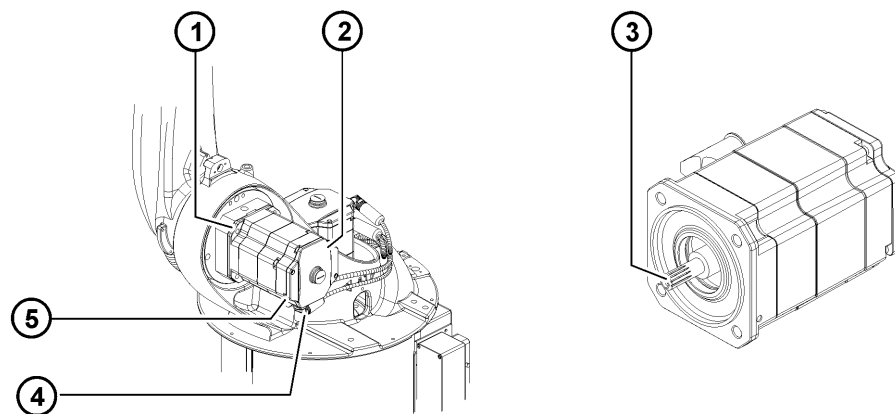

Fig. 11-3: Removal, installation of motor A2
1. Release and unplug connectors XM2 (>>> Fig. 11-3) and XP2 from motor A2.
2. Clean tothing (>>> Fig. 11-3) of motor and gear unit before installation and apply a thin but continuous coat of Microlube GL 261 grease.